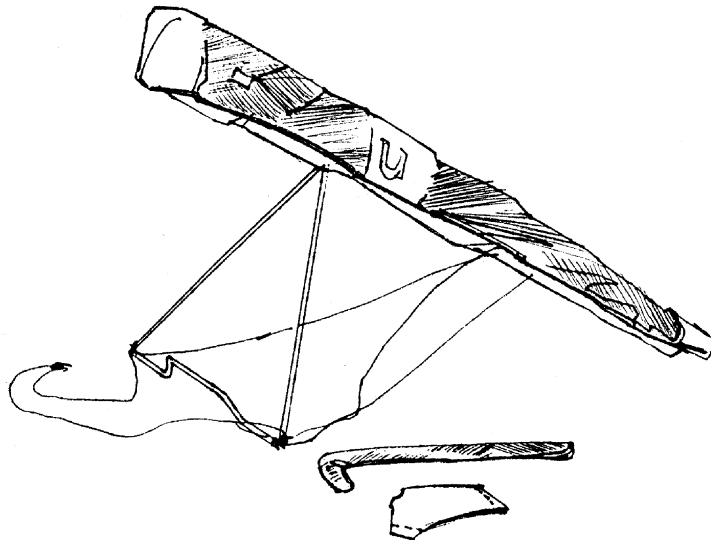

Fig. 23
2.2.3. Rest the glider on the control bar (Fig. 23).